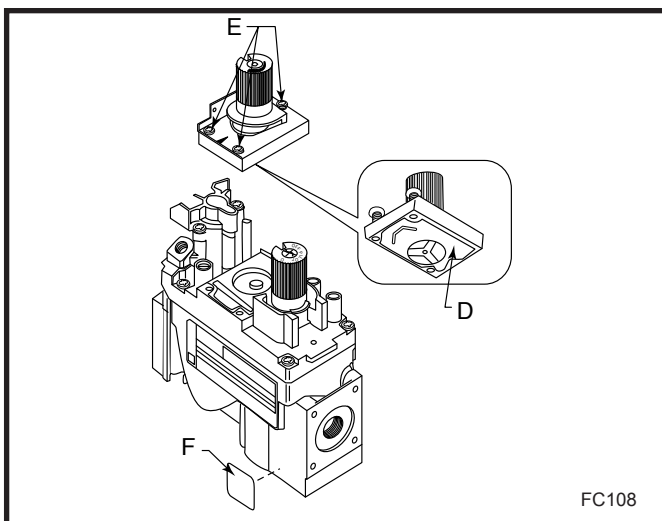

Fig. 51 Replace regulator.
2. Insure the rubber gasket (D) is properly positioned and install the new HI/LO pressure regulator assembly to the valve using the new screws (E) supplied with the kit. Tighten the screws securely. (Ref. torque = 25 in/lb) (Fig. 51)
3. Install the enclosed conversion label (F) to the valve body where it can easily be seen. (Fig. 51)